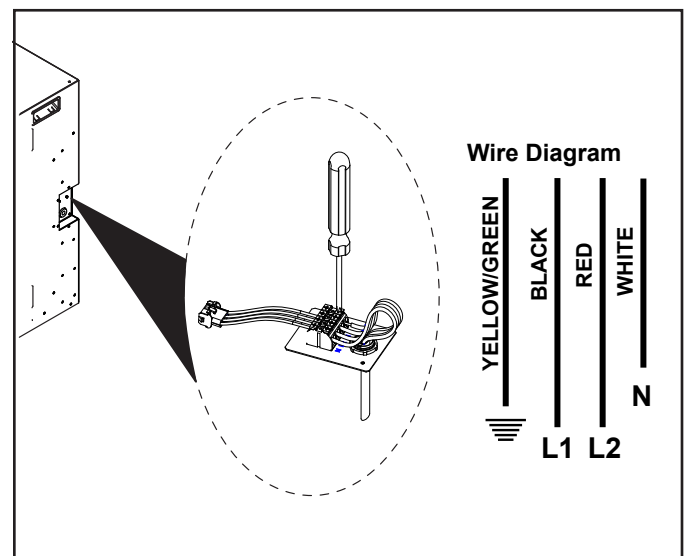

Figure 4.11 Wiring Diagram
3. Terminate type NM-B wire to the terminal block, ensure connections are secure, and tighten the strain relief. To load wire conductors into the junction block, depress the spring-loaded terminals on the junction block by hand or use a screwdriver. See Figure 4.11.